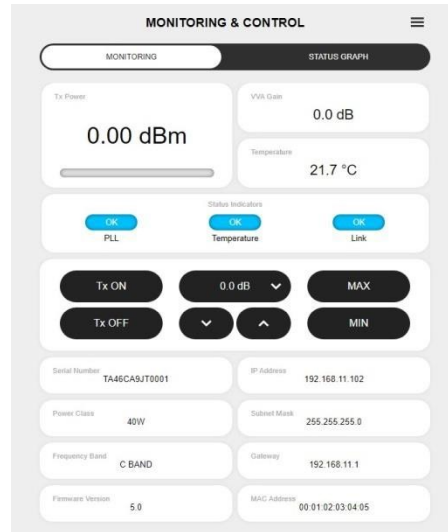

Figure 4.34 – Monitoring & Control Page
- c. Click LOGIN, and the MONITORING & CONTROL page will show up as shown in **Figure 4.34**.